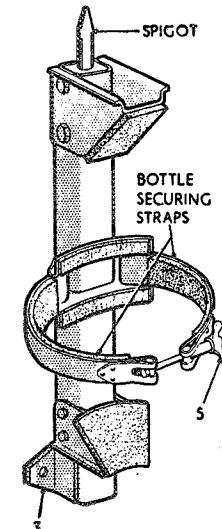

Fig. 1. Extinguisher bottle cradle
2. The Mk. 5A methyl bromide fire extinguisher bottle (Stores Ref. 27N/69) is mounted in a cradle (fig. 1) on the rear face of the main spar member on the starboard side of the aircraft. The bottle, which is secured in its cradle by a metal strap, has a single discharge head, the outlet being piped to the inlet connection of the engine spray units. The discharge head is fired electrically, either by means of the push-button control in the cabin or automatically on operation of an inertia switch.
#### Extinguisher bottle (fig. 1)